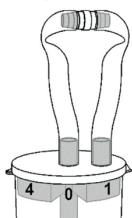

Abb. 4
9. Connect both hose ends firmly with the hose connector. The suction polyp trap is thus sealed (**Fig. 4**).